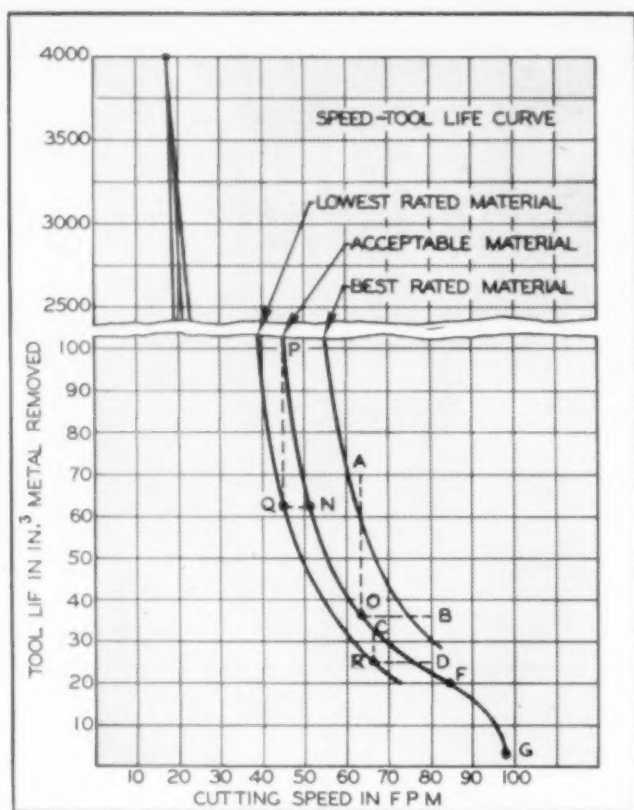

Fig. 1. Three ratings are shown here, plotted in terms of cutting speed versus cu. in. of metal removed.
Fig. 1 shows three speed-tool life curves and illustrates the form of all such curves. At this time we will consider only the curve labeled as an "acceptable material". Note that for all values of cutting speed lower than the point *F* the curve is a smooth parabola, so that as cutting speed is decreased, tool life increases. It is obvious from the shape of the curve that tool life increases much faster than the decrease in cutting speed. Note also that for cutting speeds higher than point *F* on the curve, the form of the curve is no longer a parabola, but simply drops off and tool life rapidly approaches zero as cutting speed increases. This indicates the cutting speed at which tool failure will be almost instantaneous.
An examination of the three curves on Fig. 1 will show that they are all of the same shape and are proportionally equidistant from each other throughout their length on the cutting speed axis. This is true throughout the range of speeds normally used in production, but at very slow speeds the curves will tend to come together. In fact, all tool materials—high speed steel, cast alloy, and carbide—cutting the same work material tend to have identical tool life at very low cutting speeds. This is of no importance, as the object of all tool development is to determine the highest practical cutting speed, rather than the lowest cutting speed.
Although not shown by the curves of Fig. 1, a change in cutting feed, depth of cut, machinability, tool design, coolant, or severity of the cut will shift the position (but not the general shape) of the speed-tool-life curve.
2. Using these conditions, a preliminary test is made to determine a cutting speed that will give the point of almost instant tool failure. This point is illustrated at G in Fig. 1.
such as GFON of Fig. 1. It is necessary only to make sufficient tests to determine the shape of the curve for cutting speeds about 30 percent less than that where the knee of the curve occurs. In Fig. 1 the knee would be at F where speed is 84 fpm. A cutting speed of about 80 percent of this value, say 67 fpm, would then be selected for the standard test speed.
The fundamental problem on a tool test is to compare tool materials one with another for the purpose of selecting the best tool material. But the ratio of this difference can be misleading if not properly stated. On the lower section of Fig. 1 three curves are shown. The left-hand curve represents the average performance of the poorest tool
The conclusions were based on a test accomplished on a universal testing machine. A steel block form was designed with varying block radii along its four edges: $\frac{1}{16}$ in., $\frac{1}{8}$ in., $\frac{1}{4}$ in., and $\frac{1}{2}$ in., respectively. Additional equipment included a welded box containing a four-inch-deep rubber pad. Shore hardness of the steel was 55-60. Fig. 1 shows the arrangement of the test. The form block was pressed down in an inverted position into the rubber pad. The rubber blanket was restricted to extrusion by the flanges of the box, and better distribution of the pressure was thus insured. The test specimens, in various thicknesses, were bent 90 deg around the four radii of the block. Pressures and springback angles are given in Table I.
Fig. 1. General arrangement of the test is shown here. Form block was pressed down into rubber pad, which in turn was restricted in movement by flanges on the box.